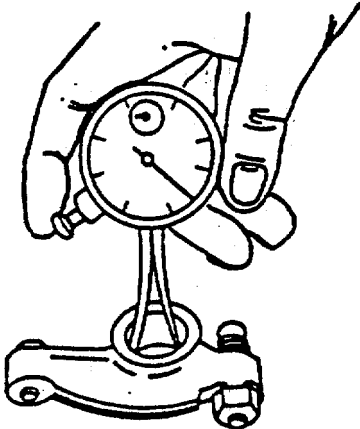

FIGURE 3-40. Bore Gauge Measurement.
- b. Measure the bore with gauge (FIGURE 3-40).